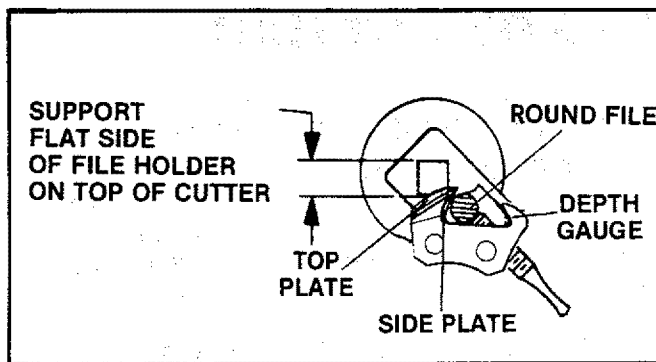

Figure 21
4. Support the square rod on the file holder (with 5/32" round file) on cutter top plate. Figure 21.